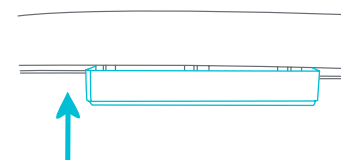

Fig. 14b
- **REATTACH:** Push the stopper into the housing completely (Fig. 14b). Ensure to apply enough pressure when inserting the stoppers.